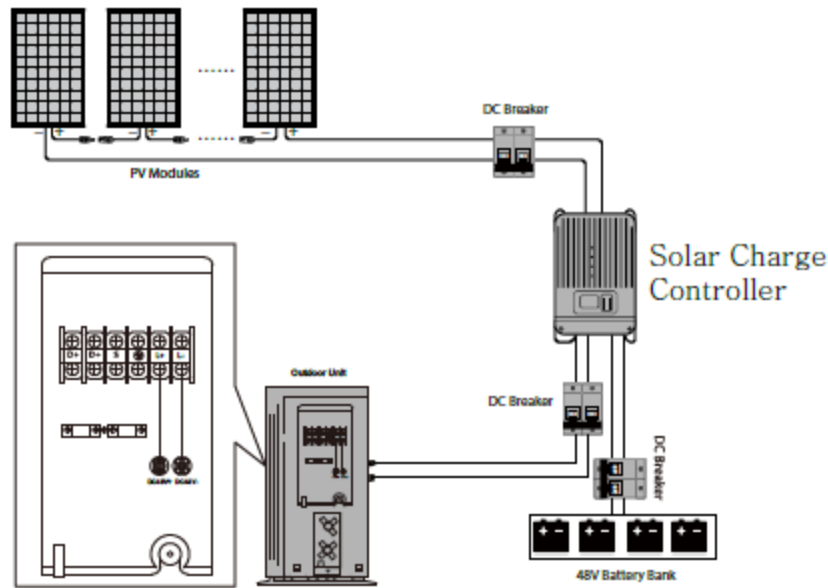

Fig. 9.25
- \* Installation as Fig. 9.25
- \* The MC-4 Connectors should be assembled to the PV-wires on both side, and please follow Fig. 9.25 to make the MC4 connector.